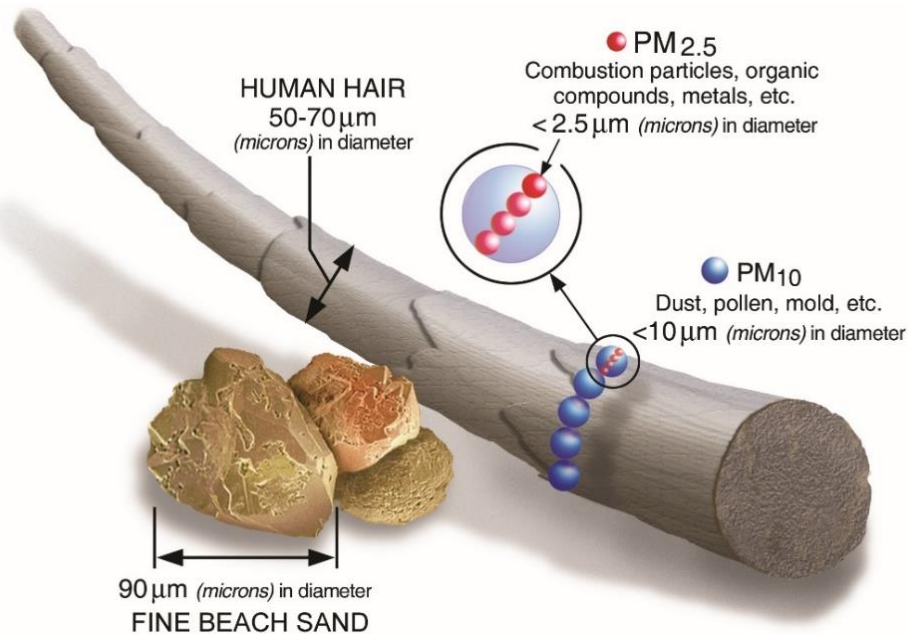

Figure 3 – Particle Size of Common Contaminants
- I.4 Except for the grooves per inch and the low frequency groove modulations all other dimensions are invisible to the naked eye under bright white light that is limited to about 50 microns (source *MIL-STD-1330D (51) & MIL-STD-1622B (52)*). Ultraviolet (UV) blacklight at 365 nano-meters (nm) can detect particles that fluoresce that are about 25 microns, but the groove bottom and groove sidewall ridges will not be individually detectable. Also, based on the groove dimensions, particles of interest can be very small – less than 10 microns and per **Figure 3**, common in any residential environment. While individual particles of less than 1 micron ‘may’ be of little consequence (see **CHAPTER XI. DISCUSSION OF CLEANLINESS CRITERIA:** for a detailed analysis), groups of these small particles can conglomerate into larger masses. Consequently, the cleaning process has to be able to remove invisible contaminants. Obviously, “looks clean” to the naked eye is basically meaningless other than to note significant defects resulting from the pressing process, handling or abuse and to see some of the more obvious manifestations of contamination, *e.g.*, fingerprints or large dust particles. To effectively clean a record, we must approach the task with a level of precision that is not